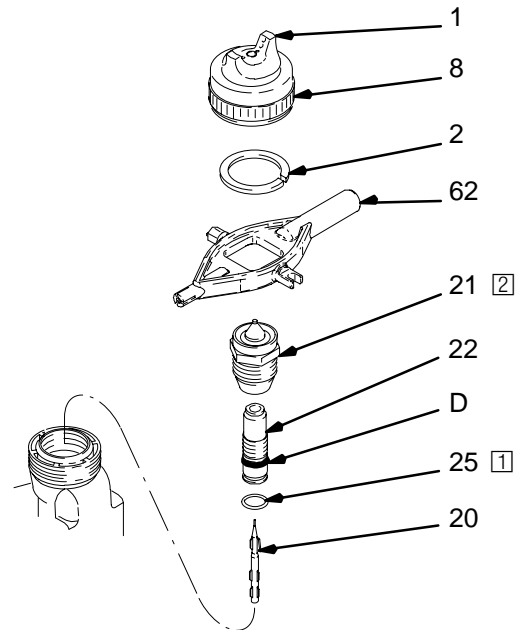

Fig. 16
2. Remove the air cap assembly (1, 2, 8). See Fig. 16, page 31.
The resistor stud contact ring (D) is a conductive contact ring, **not** a sealing o-ring. See Fig. 16. To reduce the risk of sparking, which could cause a sparking or electric shock, **do not** remove the resistor stud contact ring (D) or operate the gun without the contact ring in place. Do not replace the resistor stud (22) with anything but a genuine Graco part.
5. Remove the retaining ring (2) to free the air cap (1) from the retaining nut (8).
1. Lightly lubricate the o-ring (25) with petroleum jelly, and install it on the resistor stud (22). See Fig. 16.
4. Trigger the gun while installing the fluid nozzle (21) and resistor stud (22) assembly with the multi-tool (62). Tighten the assembly until the fluid nozzle seats in the gun barrel (1/8 to 1/4 turn past hand-tight). See Fig. 16.
6. Install the air cap (1) into the retaining nut (8), and secure it with the retaining ring (2).
7. Carefully install the air cap assembly (1, 2, 8) onto the gun barrel. Do not bend the electrode (20) wire, and be sure to insert the electrode wire through the *center* air cap hole. Rotate the air cap horns to the desired position.
8. Tighten the retaining nut (8) until the air cap is held firmly in place; you should not be able to rotate the air cap horns by hand.
- 1 Apply a very light coat of lubricant to the o-ring (25).
- 2 Tighten the nozzle (21) hand-tight, then 1/8 to 1/4 turn more.